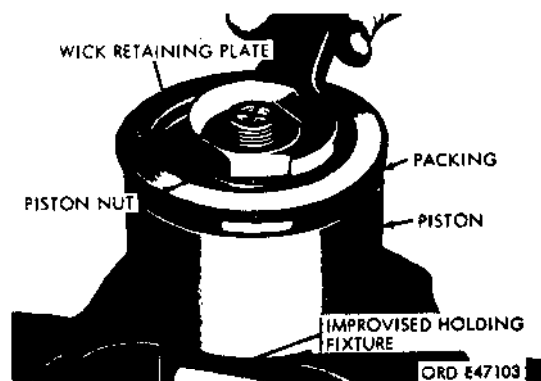

Figure 313. Disassembling air-hydraulic (Air-Pak) power cylinder piston, using improvised holding fixture.
- (b) Place the power piston (Q) over an improvised holding fixture (fig. 313) with the fixture straddling two opposite ribs in the piston. Clamp the improvised fixture in a vise (fig. 315). Remove the piston plate nut (H) and the wick retaining plate (J). Remove the expansion ring (L) securing the wick (H) in the piston packing (P), and remove the wick. Remove the plate (N) and packing (P). Discard the packing, oil wick, and expansion ring. Remove the piston from the holding fixture.
- (1) Cleaning. Wash all parts thoroughly in clean mineral spirits paint thinner. Be sure to remove all traces of shellac and gasket material from gasket surfaces. Dry the parts with compressed air and wipe with a clean, lint-free cloth.
(2) Inspection.
(2) Assemble power piston.
(a) Place the power piston (Q) in a holding fixture and clamp the fixture in a vise (figure 313).